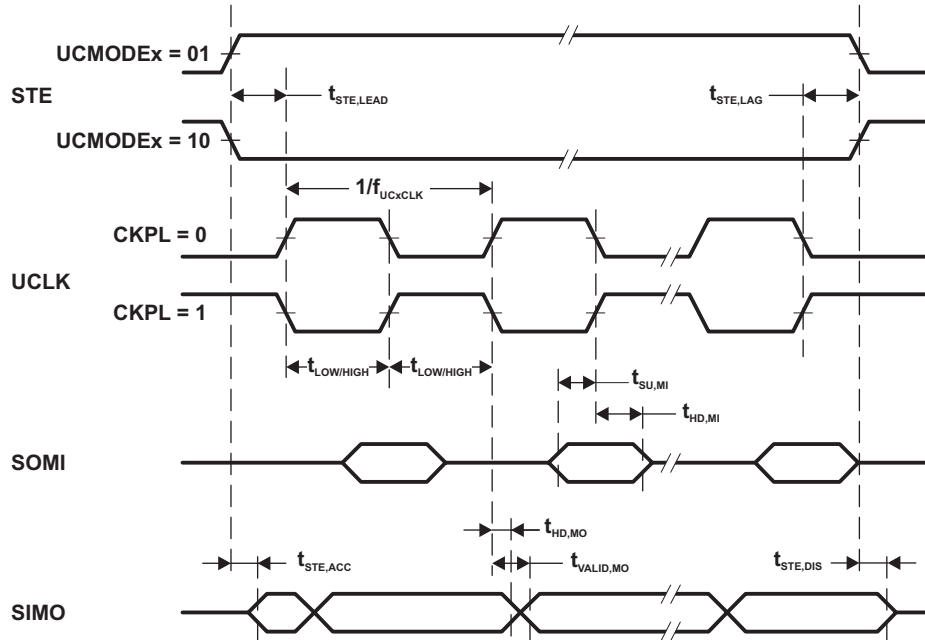
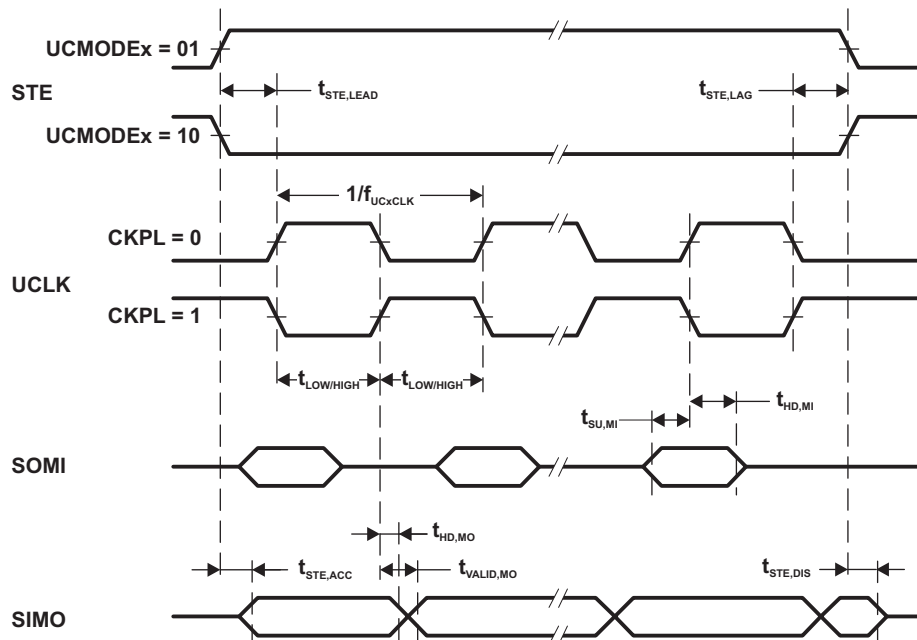

Figure 5-14. SPI Master Mode, CKPH = 0
Figure 5-15. SPI Master Mode, CKPH = 1
- (2) Specifies the time to drive the next valid data to the SIMO output after the output changing UCLK clock edge. Refer to the timing diagrams in Figure 5-14 and Figure 5-15.
- (3) Specifies how long data on the SIMO output is valid after the output changing UCLK clock edge. Negative values indicate that the data on the SIMO output can become invalid before the output changing clock edge observed on UCLK. Refer to the timing diagrams in Figure 5-14 and Figure 5-15.